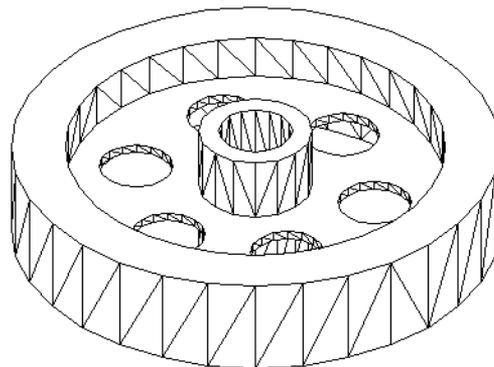

Figure 24-19: The final model after using the UNION command to create one object from three.
10. Save your drawing. It should look like Figure 24-19. If you’re continuing on to the next exercise, leave it open.